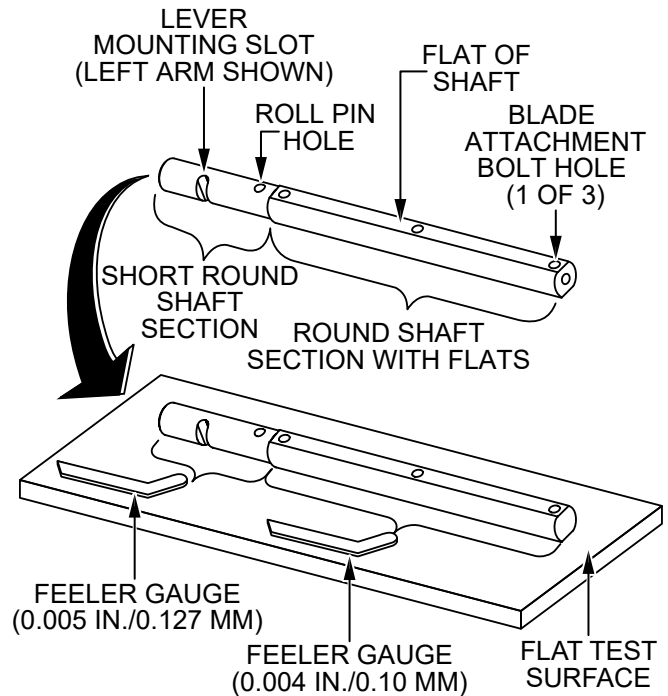

Figure 54. Checking Trowel Arm Straightness
1. Place the trowel arm onto a thick steel plate, granite slab, or any other surface which is flat and true (Figure 54).
2. Check each of the flat sides of the trowel arm (Figure 54). A **feeler gauge** of **0.004 in. (0.10 mm)** should not pass between the flat of the trowel arm and the test surface along its length on the test surface.
3. Check the clearance between the **short round shaft section** and the test surface as one of the flat sections of the arm rests on the test surface (Figure 54). Rotate the arm to each of the flat sections and check the clearance of the round shaft. Use a **feeler gauge** of **0.005 in. (0.127 mm)**. Each section should have the same clearance between the round of the trowel arm shaft and the test surface.